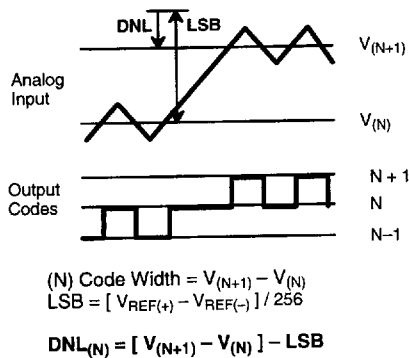
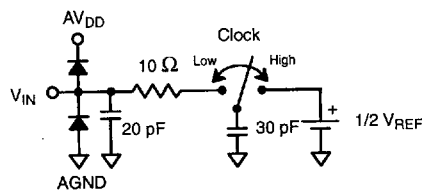

Figure 3. DNL Measurement
Figure 5. Analog Input Equivalent Circuit
- (1) Tester measures code transitions by dithering the voltage of the analog input ( $V_{IN}$ ). The difference between the measured and the ideal code width ( $V_{REF}/256$ ) is the DNL error (Figure 3). The INL error is the maximum distance (in LSB's) from the best fit line to any transition voltage (Figure 4). Accuracy is a function of the sampling rate ( $F_S$ ).
- (2) Guaranteed; Not tested.
- (3) Specified values guarantee functionality. Refer to other parameters for accuracy.
- (4) See  $V_{IN}$  input equivalent circuit (Figure 5). Switched capacitor analog input requires driver with low output resistance.
- (5) All inputs have diodes to  $DV_{DD}$  and DGND. Input OE1 has internal pull down. Input OE2 has internal pull up. Input DC currents will not exceed specified limits for any input voltage between DGND and  $DV_{DD}$ .
- (6) Internal resistor to  $DV_{DD}$  biases unconnected input to active high logical level.
- (7) Internal resistor to DGND biases unconnected input to active low logical level.
- (8) Condition to meet aperture delay specifications ( $t_{AP}$ ,  $t_{AJ}$ ). Actual rise/fall time can be less stringent with no loss of accuracy.
- (9)  $DV_{DD}$  and  $AV_{DD}$  are connected through the silicon substrate. DC voltages differences will cause undesirable internal currents.
- (10) SNR: Ratio of fundamental over noise.